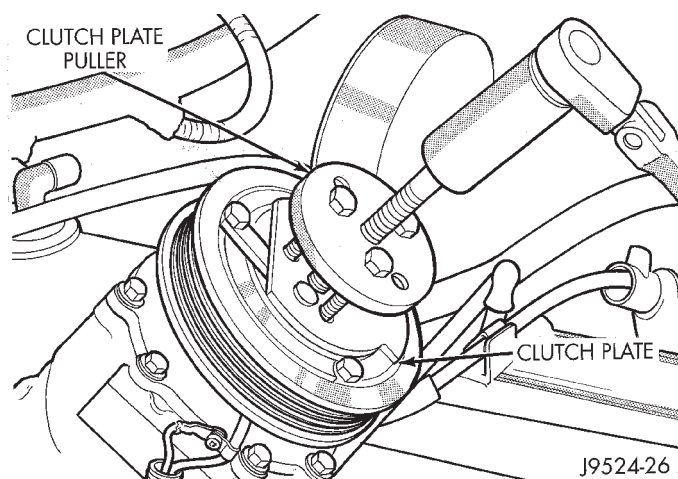

Fig. 19 Clutch Plate Remove
(7) Remove the clutch plate with a puller (Special Tool C-6461) (Fig. 19).